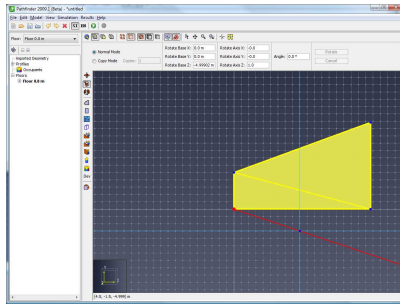

Figure 118. Base point of rotation
- The first specifies the base of rotation (Figure 118).